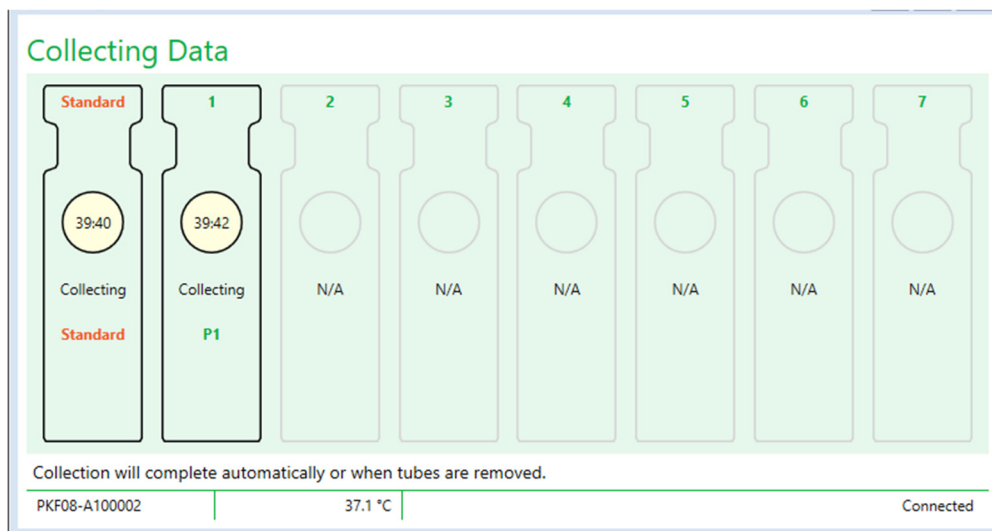

Figure 13. BG Analytics® Collecting Data Screen with STAT STD in Well Standard and One (1) Patient Tube in Well no. 1
4. Continue in the same manner with all STAT RGT tubes containing patient sample (as shown in Figure 13).